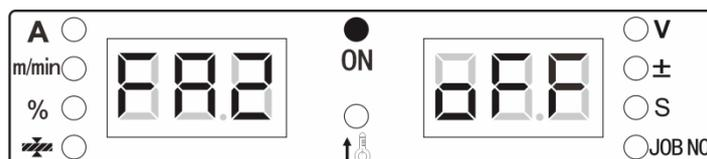

Fig. 4-3 FA2 display interface
1. Enter the internal menu and find **FA2** by **turning the knob**. The digital meter is as displayed in Fig. 4-3.